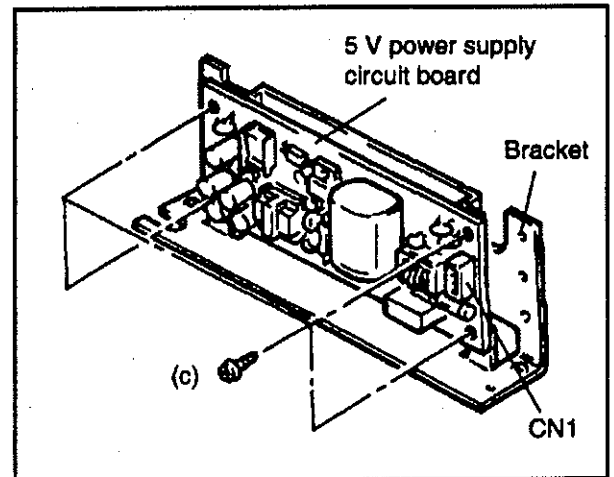

FIG.2
- (1) Align the 5V power supply circuit board with the bracket screw hole and secure with four retaining screws(c) (Fig.2).